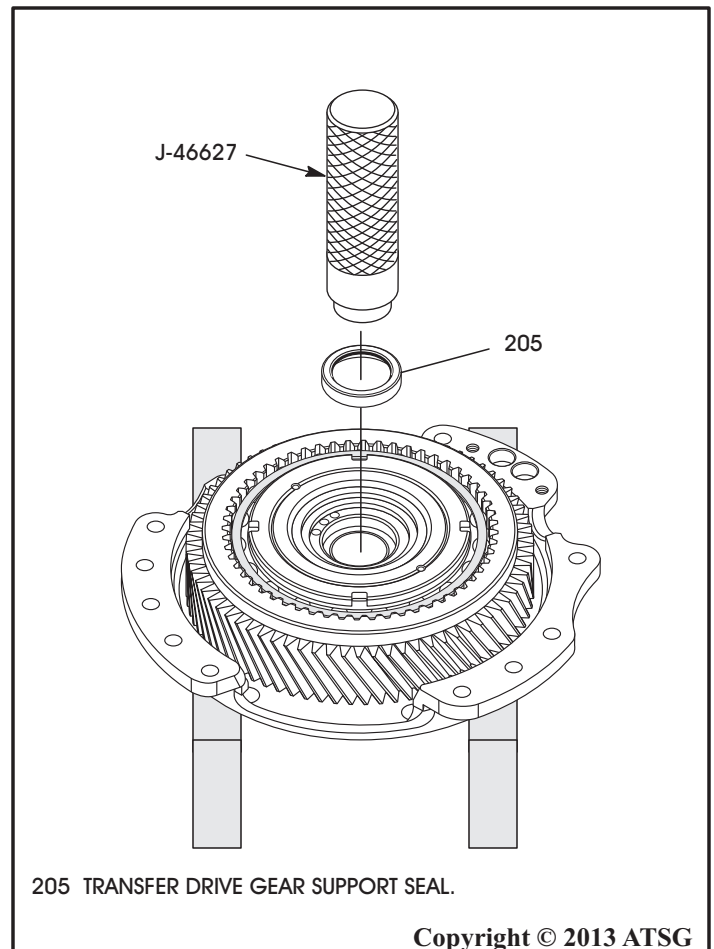

Figure 108
16. Turn transfer drive gear support over and set on blocks, as shown in Figure 108.
17. Install transfer drive gear support seal, as shown in Figure 108, using driver J-46627.